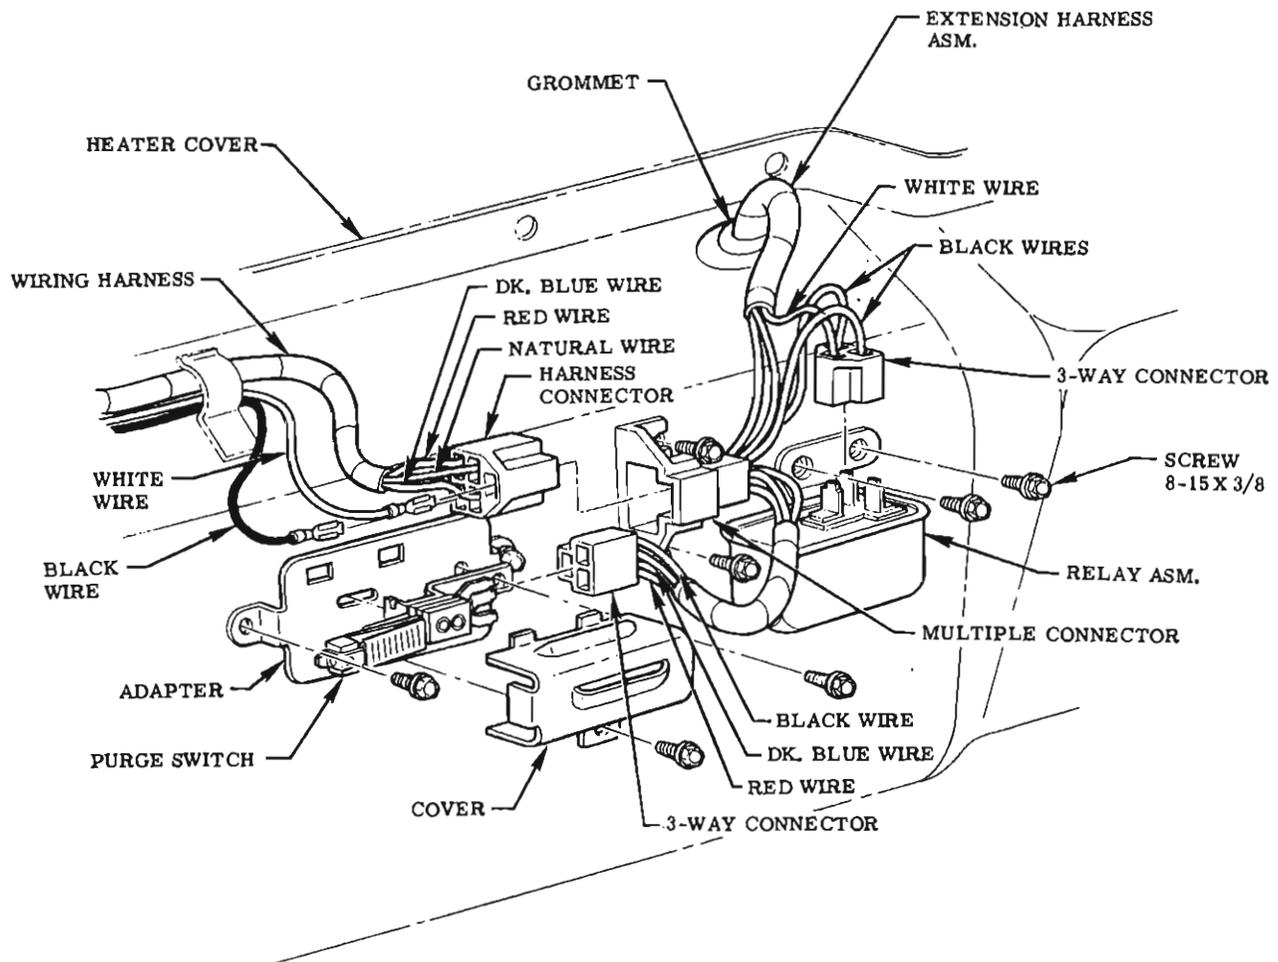

FIG. 3a PURGE SWITCH, MULTIPLE CONNECTOR & RELAY
STEP 23.1 SUB ASSEMBLE PURGE SWITCH & COVER TO ADAPTER WITH SCREWS (IN BAG A). SEE FIG. 3a.
STEP 23.2 ATTACH ADAPTER SUB ASSEMBLY, MULTIPLE CONNECTOR & RELAY TO EXISTING HOLES IN COVER WITH SCREWS (IN BAG A). SEE FIG. 3a.
INTO HARNESS CONNECTOR. SEE FIG. 3a.
STEP 23.4 PLUG HARNESS CONNECTOR TO MULTIPLE CONNECTOR, 3-WAY CONNECTOR (BLACK & WHITE WIRES) TO RELAY & REMAINING 3-WAY CONNECTOR (BLACK, DK. BLUE & RED WIRES) TO PURGE SWITCH. SEE FIG. 3a.